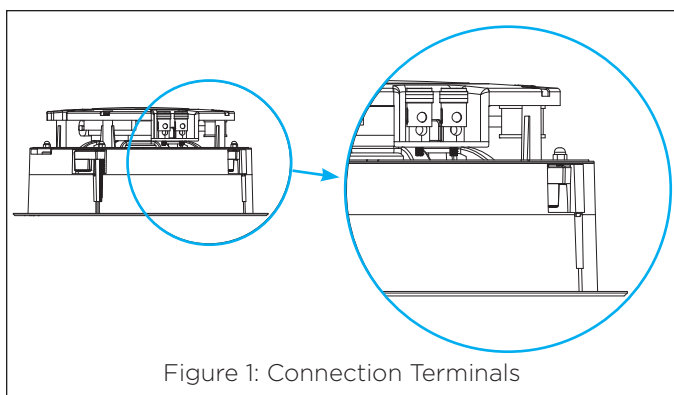

Figure 1: Connection Terminals
- 6b. Push the top of each connector post down to open the connector and insert the exposed wires into the holes in the posts (see Figure 1). The speaker's positive post is labeled with a red dot; the negative post is labeled with a black dot.